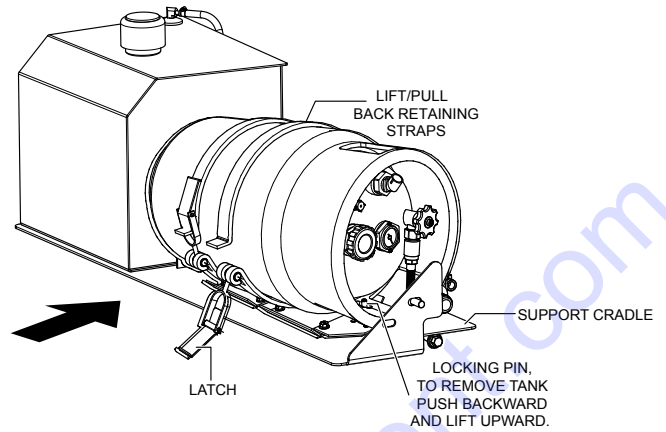

Figure 5. LPG Tank Removal
3. Release LPG tank retaining strap latches (Figure 5).